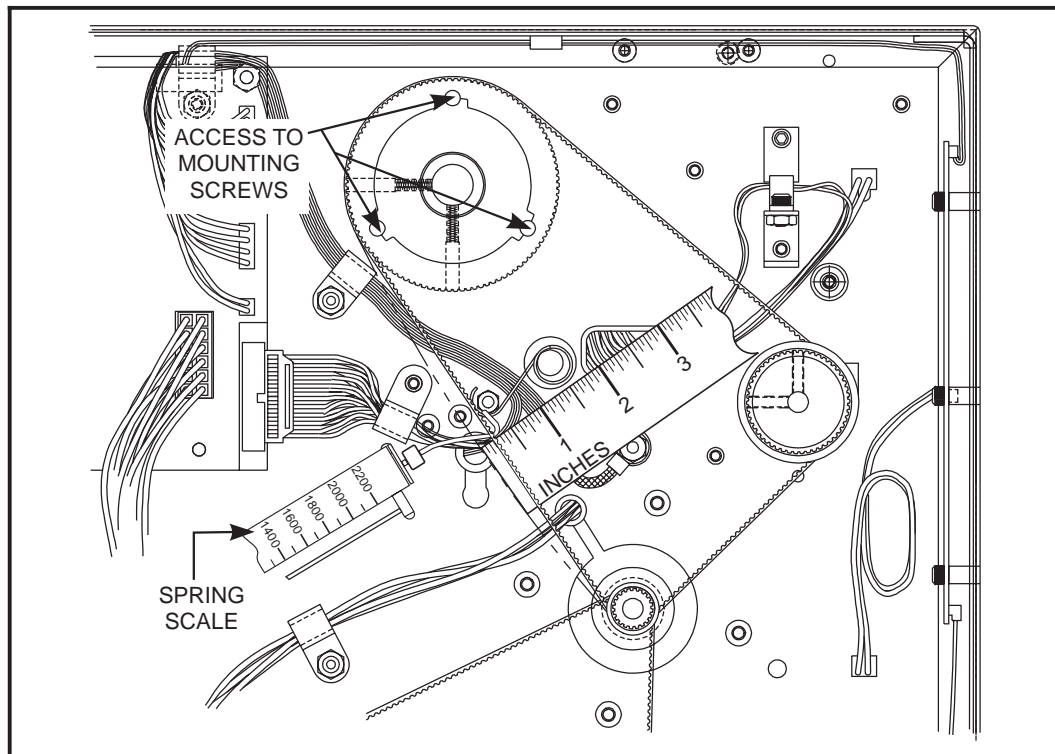

Figure 5.19 Main Drive Belt Replacement
2. Refer to Figure 5.19 and rotate the Ribbon Take-Up Pulley until the three holes in the pulley are aligned with the three mounting screws which hold the Ribbon Take-Up Spindle Assembly to the Printer Frame.
6. Hook a 2200 gram Spring Scale to the belt as shown in Figure 5.19, and carefully slide the Ribbon Take-Up Spindle Assembly to the left to increase belt tension.